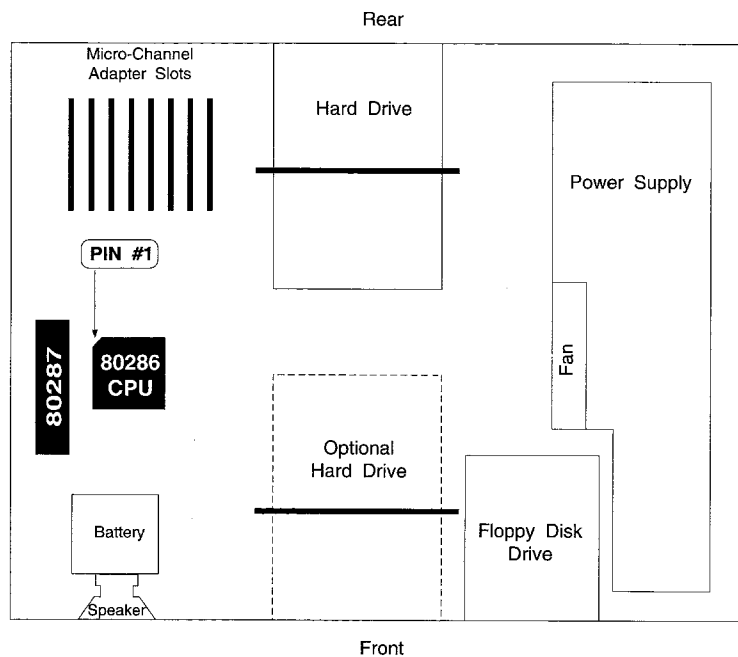

Figure 15. IBM PS/2 Model 60 System Board, (see bottom of card for location of Pin #1).
7. Loosen the two (2) cover retainer screws, then tilt the side panel and remove from the base. Set the side panel aside.
**Note:** The position of pin 1 on the 80286 processor chip will determine **exactly** how the 386SLC or 486SLC2 Cached Processor Upgrade Card will be installed. The location of pin 1 shown in figure 15 is correct for the motherboards we have worked with in developing the card. It is possible that alternative motherboard designs or engineering levels exist and the location of pin 1 on your motherboard is definitive.